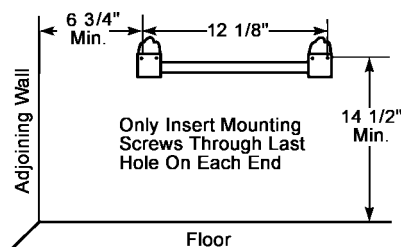

Figure 8 - Mounting Bracket Clearances
WARNING: Maintain minimum clearances shown in Figure 8. If you can, provide greater clearances from floor and joining wall.
2. Mark screw locations on wall. (see Figure 8)